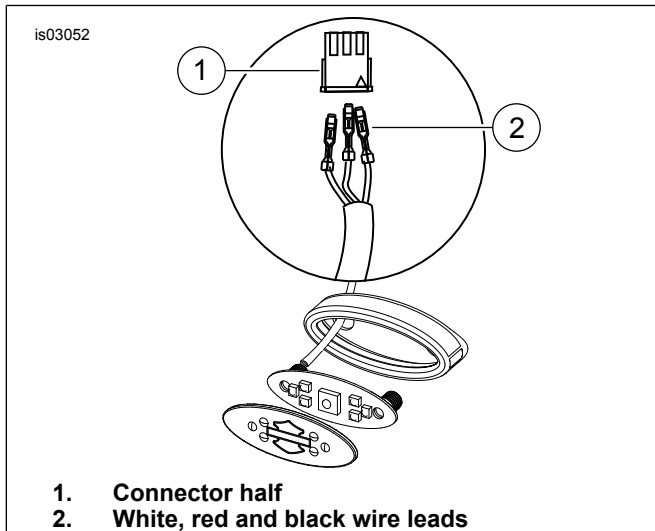

Figure 5. Saddlebag Light Element
1. See Figure 5. Match the wire colors of the saddlebag light leads (2) to the wire colors in the left and right side three-way pin housings in the Tour-Pak light/controller harness (white to white, red to red, black to black).